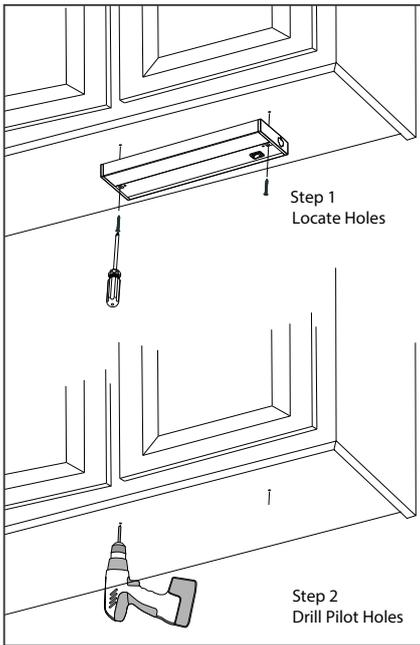

Figure 3
1. Locate Mounting Holes: Place fixture on mounting surface and with a thin screwdriver, pencil or scratch awl mark the spot where the screws will be located through the Mounting Holes in the top of the fixture. (See Figure 3.) Do the same for a multiple fixture installation. When mounting into drywall, drill 3/16" holes for the plastic Wall anchors (not included). Insert the plastic wall anchors into the proper holes and tap them into place so they are flush with the surface of your drywall. For mounting into wood cabinets drill 1/16" pilot holes, 1/2" deep.